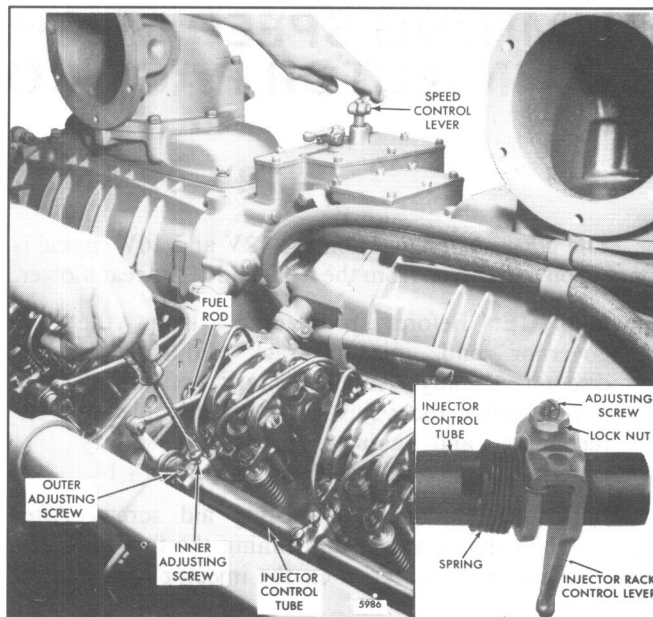

Fig. 4 – Positioning No. 4R (16V–92) or No. 3R (12V–92) Injector Rack Control Lever
7. Hold the speed control lever with light finger pressure (Fig. 4) and proceed as follows: